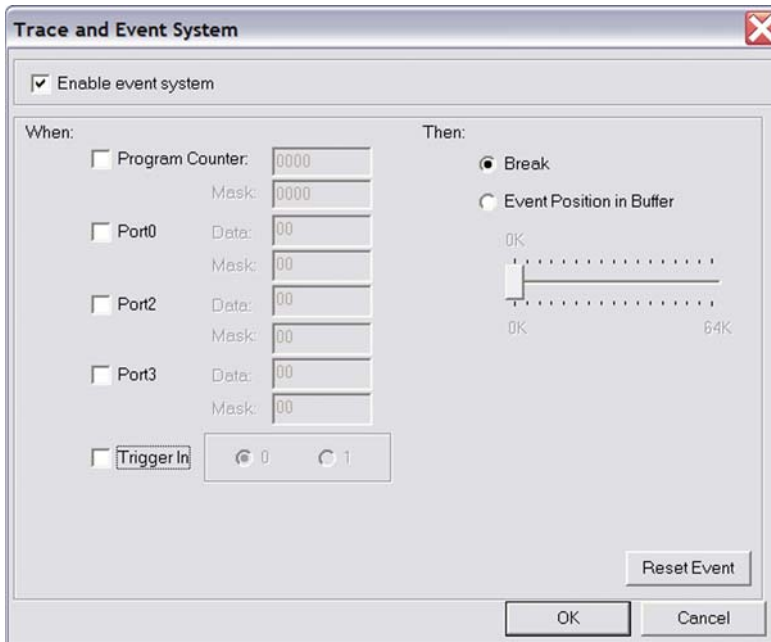

Figure 14. Trace and Event System Window
1. Select Tools --> Trace and Event System. The Trace and Event System window appears (Figure 14).